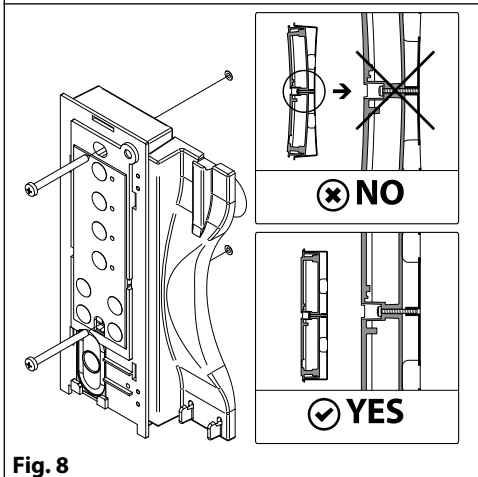

Fig. 8
3. As shown in **Fig. 8**, once the wires are connected, fix the intercom to the wall using a Phillips screwdriver and the two screws provided.
**In order to avoid malfunctions, please do not over tighten the fixing screws shown in Fig. 8.**